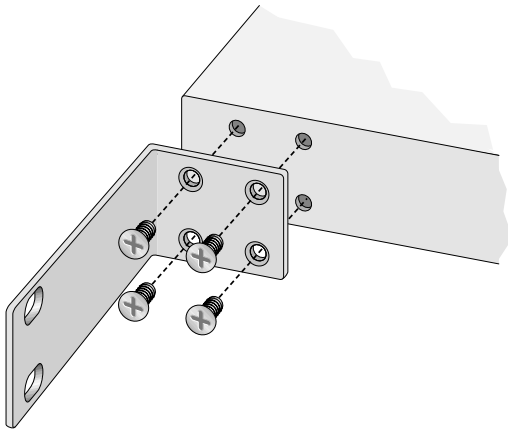

Figure 7 Attaching the Rackmounting Brackets to the Switch
3. Attach the rackmounting brackets to each side of the switch using the screws provided. See Figure 7.